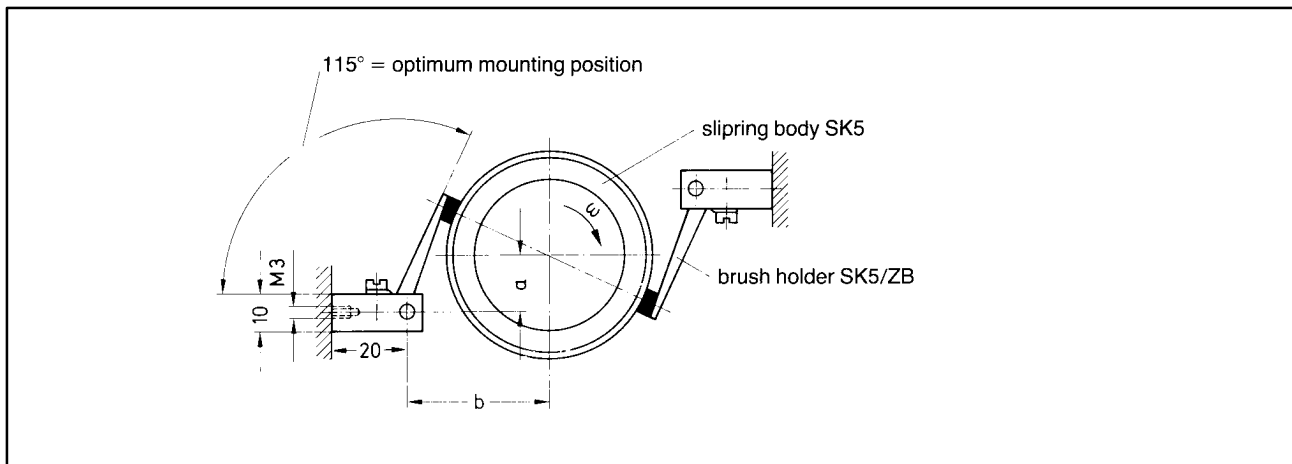

Fig. 10.1: Slipring body SK5 with brush holder SK5/ZB, mounting example
Two brush holders SK5/ZB with five brushes each complete the slipring body to form the assembly. The five brushes are arranged for signal transmission on the holder. They can move about a common bolt and springs will provide the necessary mechanical pressure. Two holes with M3 thread are for the mounting of the brush holder. Thus the fixing can be designed according to the requirements. The optimum arrangement of slipring body and holder is shown in Fig. 10.1.
4. The brush holders shall be arranged at opposite sides of the shaft (see fig. 10.1). This is precondition for a safe signal transmission. The brush holders shall be mounted in such a way that the brush underneath the black clamping screw is associated with the first slipping next to the cable outlet. The clamp connections marked with colours on the brush holder will then be in the same sequence as cable core colours of the slipping body.